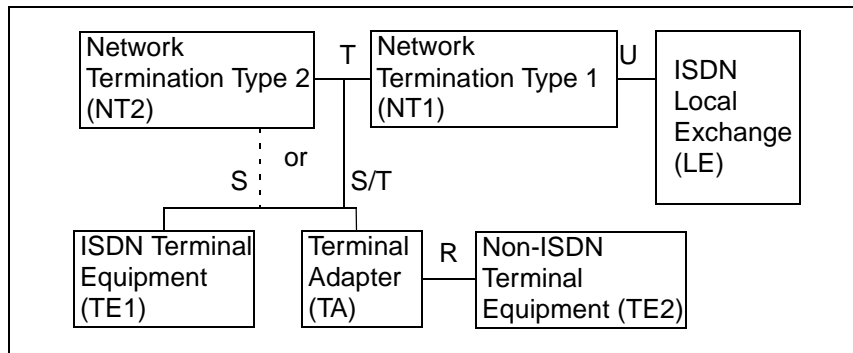

Figure 3-8. ISDN Reference Point Block Diagram
The two-wire 2B+D U interface uses the Lucent T7256A NT1 device. The NT1 device provides the termination point at the RJ-45 connection at P3 between the local exchange (LE) and ISDN Terminal Equipment (TE1), and between the terminal adapter (TA) and non-ISDN terminal equipment (TE2). The U interface is the main ISDN interface provided in North America and Asia. The default configuration of the NT1 in this design is to provide a connection between a TA interface to a PC and a TE2 interface to two plain old telephone service (POTS) phones. Refer to Figure 3-8 for an illustration of the ISDN reference points.